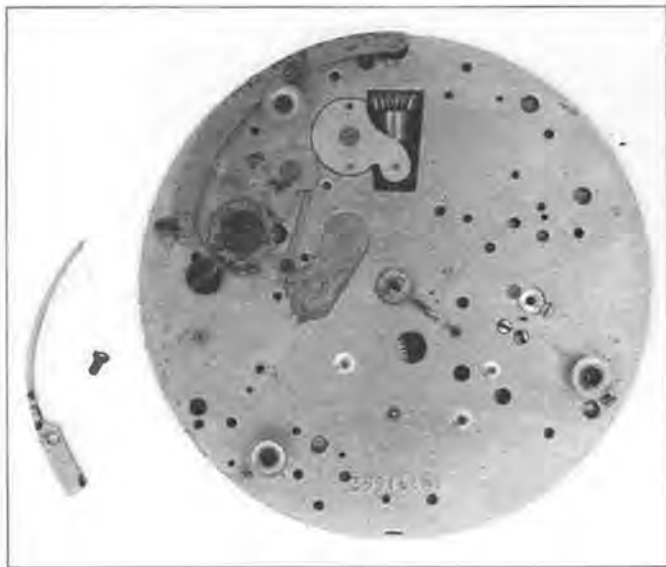

Figure 12
Step 13. Remove the actuating lever spring. Figure 12 shows the spring after its removal.